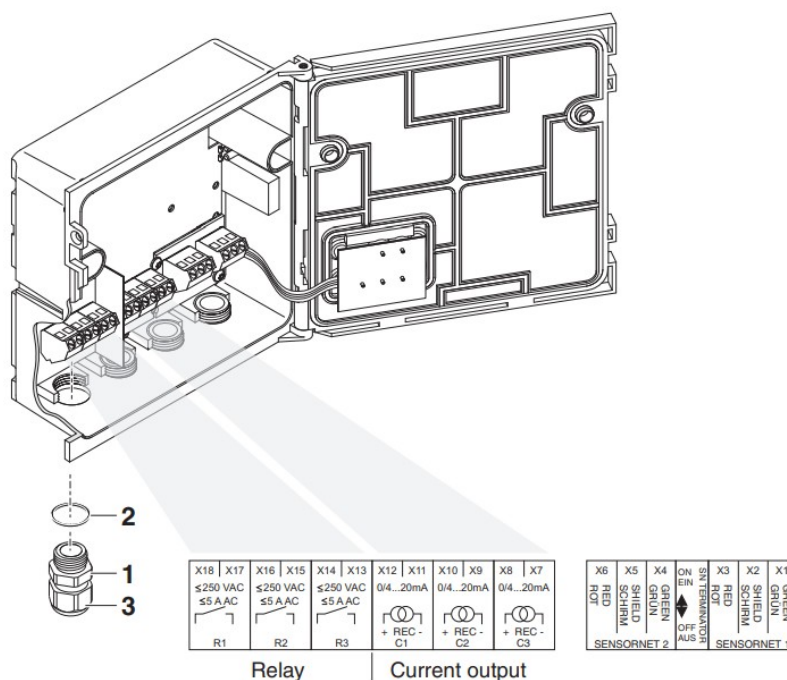

Fig. 3-1 Terminal strip with the relay and current connections
2. Screw the cable gland (pos. 1 in Fig. 3-1) with the sealing ring (pos. 2) into the module housing.
3. Loosen the coupling ring (pos. 3 in Fig. 3-1).
6. Tighten the coupling ring (pos. 3 in Fig. 3-1).